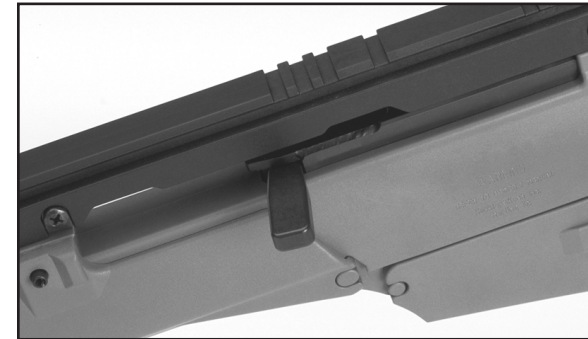

Figure 23 Cocking lever shown in its “forward assist” position
- 1 • After the magazine has been inserted, swivel out the cocking lever and push it inward against the bolt head carrier until it engages (see Figure 23).